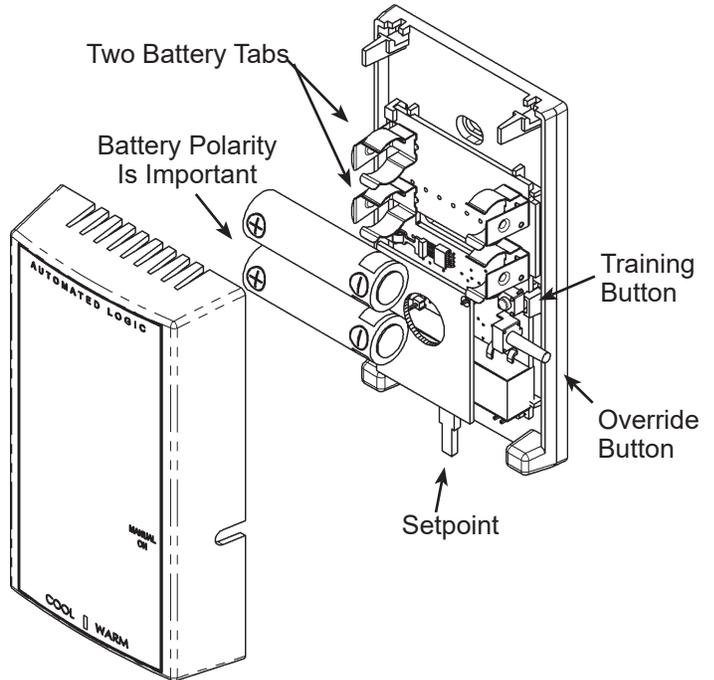
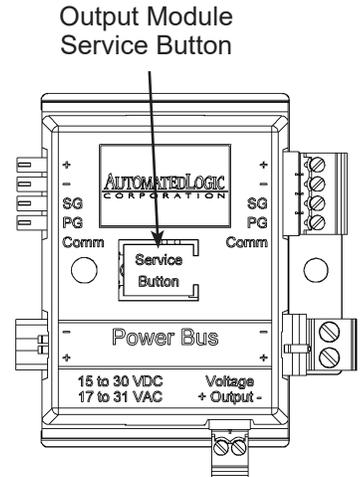

Fig 6: LS3-WT Interior I.D.
Fig 8: Output Module
5. Remove battery tabs or Install provided batteries and follow polarity as shown above in Fig 6 or damage may occur. The unit will work on just one battery however the battery life will be cut in half.
3. Remove the cover of the transmitter and remove battery tabs or install the batteries, observe polarity or damage to the unit may occur. The small LED at the bottom right of the circuit board, next to the setpoint (see Fig 6), should flash approximately once every 20 seconds indicating a transmission. (The flash is very quick.)
4. Press and hold down the **Service Button** on the output module (Fig 8). Then, press and release the training button (Fig 6) on the transmitter. When the output module has received a valid data packet from the transmitter the output module's red LED will light and remain lit as long as you hold down the output module's service button. Release the service button on the output module and the output module's LED will go out. During normal operation the output module's LED will flash indicating data reception approximately once every 20 seconds in time with the transmitter trained to it. The output module is now receiving data from the transmitter.
4. Press and hold down the **Service Button** on the output module (Fig 8). Then, press and release the **OVERRIDE** button (Fig 6) on the transmitter. (NOTE: If unit was not ordered with an override button, the button is inside the
4. Place the previously trained **Temperature** or **Setpoint** output module's jumper J4 in the Override Training Position. (See Figs 10 and 11) Press and hold down the **Service Button** on the output module (Fig 8). Then, press and release the **OVERRIDE** button (Fig 2) on the transmitter. When the output module has received a valid data packet from the transmitter, the output module's red LED will light and remain lit as long as you hold down the output module's service button. Release the service button on the output module and the output module's LED will go out. During normal operation the output module's LED will flash indicating data reception approximately once every 20 seconds in time with the transmitter trained to it. The output module is now receiving data from the transmitter. Remove the jumper on J4 and store it on the right Storage Position Pin (Fig 11). Replace the Output Module's cover.
LED at the bottom right of the circuit board, next to the setpoint (see Fig 6), should flash approximately once every 20 seconds indicating a transmission. (The flash is very quick.)
4. Place the previously trained **Temperature** or **Setpoint** output module's jumper J4 in the Override Training Position (see Figs 10 and 11). Press and hold down the **Service Button** on the output module (Fig 8). Then, press and release the **OVERRIDE** button (Fig 2) on the transmitter. When the output module has received a valid data packet from the transmitter, the output module's red LED will light and remain lit as long as you hold down the output module's service button. Release the service button on the output module and the output module's LED will go out. During normal operation, the output module's LED will flash indicating data reception about once every 20 seconds in time with the transmitter trained to it. The output module is now receiving data from the transmitter. Remove the jumper on J4 and store it on the right Storage Position Pin (Fig 11). Replace the Output Module's cover.
4. Press and hold down the **Service Button** on the output module (Fig 8). Then, press and release the **OVERRIDE** button (Fig 6) on the transmitter. When the output module has received a valid data packet from the transmitter, the output module's red LED will light and remain lit as long as you hold down the output module's service button. Release the service button on the output module and the output module's LED will go out. During normal operation the output module's LED will flash indicating data reception approximately once every 20 seconds in time with the transmitter trained to it. The output module is now receiving data from the transmitter.